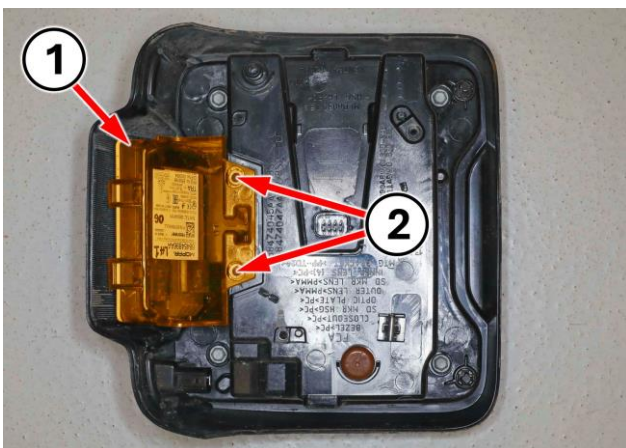

Figure 11 – BSM Module
8. **OLD lamp:** Remove the two screws (2) securing the BSM module to the lamp (Figure 11).
9. **OLD lamp:** Remove the BSM module (1) from the lamp (Figure 11).